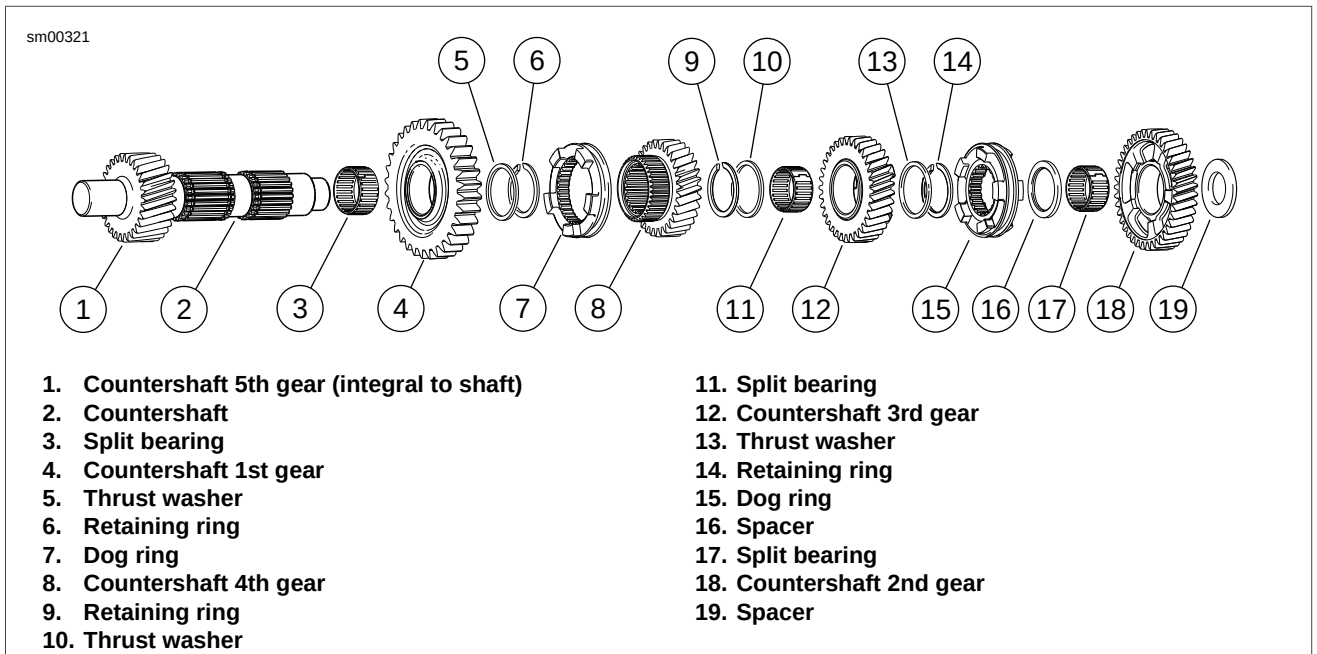

Figure 6-65. Transmission Countershaft
1. See Figure 6-65. Install **new** split bearing (3) in 1st gear position on mainshaft.
2. Install 1st gear (4) and thrust washer (5).
3. Using RETAINING RING PLIERS (Part No. J-5586-A), expand and install **new** retaining ring (6).
4. Install dog ring (7) onto 4th gear (8). Now install dog ring and gear assembly onto countershaft.
5. Expand and install **new** retaining ring (9).
6. Install thrust washer (10).
7. Install **new** split bearing (11) in 3rd gear position on mainshaft.
8. Install 3rd gear (12) and thrust washer (13).
9. Expand and install **new** retaining ring (14).
10. Install dog ring (15). Make sure to install with dog ring facing same direction as when it was removed.
11. Install spacer (16).